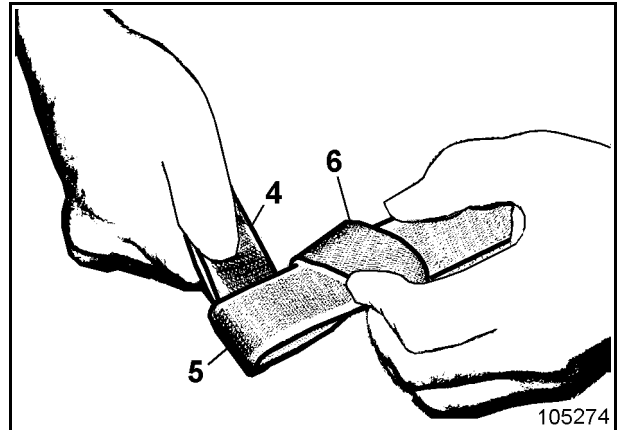

Fig. 2-37:
- Pull loop (5, Fig. 2-37:) through loop (6).
- Pull loop (4, Fig. 2-37:) through loop (5).
- Press the hooking safety device (17, Fig. 2-37:) of the snap hook (16).